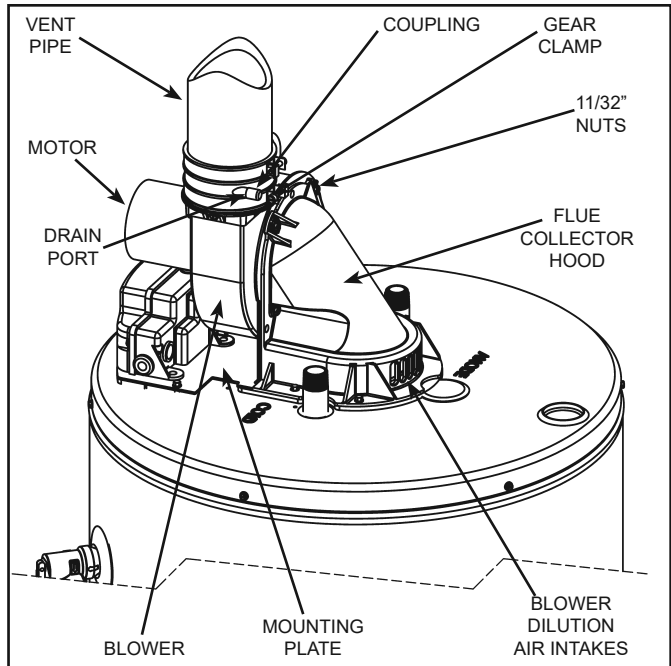

Figure 46.
Inspect the top of the heater and around the ventilation openings of the blower motor and the rear blower dilution air intakes for any lint and dust that may have accumulated. Depending on the location of the heater, significant quantities of lint may accumulate. The lint may obstruct the free flow of air to the motor, and cause the motor and blower to run hotter than normal (see Figure 46).
Loosen the lower gear clamp that holds the rubber coupling to the blower (see Figure 46).
5. Remove and retain the (4) 11/32" nuts located on the back of the blower with the nutdriver (see Figure 42 and Figure 46).
10. With all parts cleaned and the blower wheel turning freely, reinstall the blower to the mounting plate aligning the (4) studs and pushing tight against the mounting plate.
11. Reinstall the (4) 11/32" nuts and tighten securely. All (4) nuts must be in place and secure to safely operate the blower.